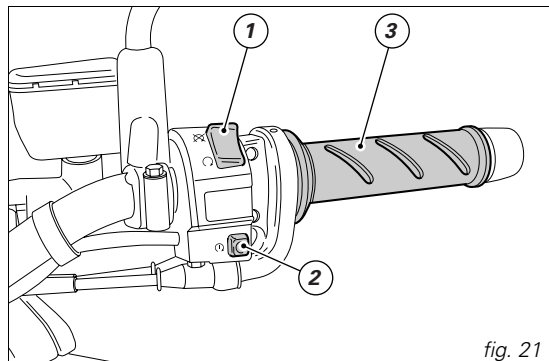

fig. 21
- 1) if the CPU recognised the code, the IMMO light (3, fig. 5) on the instrument panel will flash briefly. This means that the immobilizer system has recognised the key code and enabled engine ignition. When you press the  engine start button (2, fig. 21), the engine starts;
RH switch (fig. 21)
Throttle twistgrip (fig. 21)